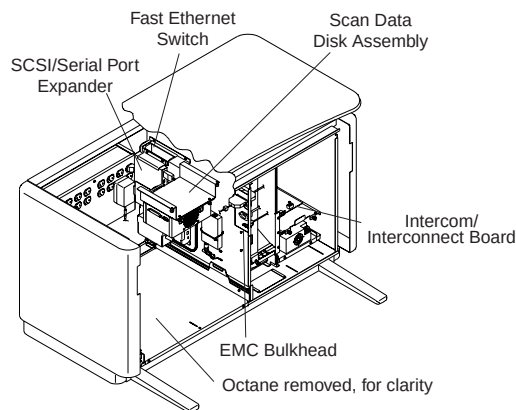

Figure 8 Console, with front cover and EMC cover removed
- 1.) Disconnect the two (2) SCSI cables and three (3) RJ45 cables from the SCSI/serial expander (Central Data box). Then remove the data box, power supply, associated hardware and power supply cable. The freed SCSI cable may be discarded.
- Refer to Figure 8 for location of SCSI/serial expander, and Figure 7 for location of screws.
- 3.) Disconnect the SCSI cable at J23, from the Octane side of the side bulkhead (see Figure 8 for location of bulkhead). This cable may be discarded.